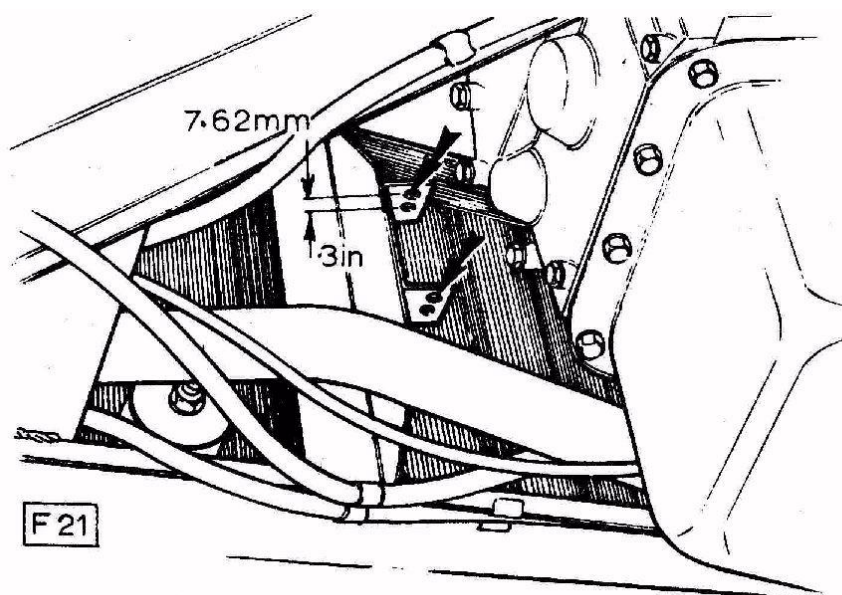

Fig. 107 Holes in mounting bracket
6. Drill a second hole of .25 in. (6.35 mm.) diameter on each 'leg' of the relay lever mounting bracket on the chassis. This second hole should have its centre .30 in. (7.62 mm.) from the centre of the existing hole (Fig. 107).